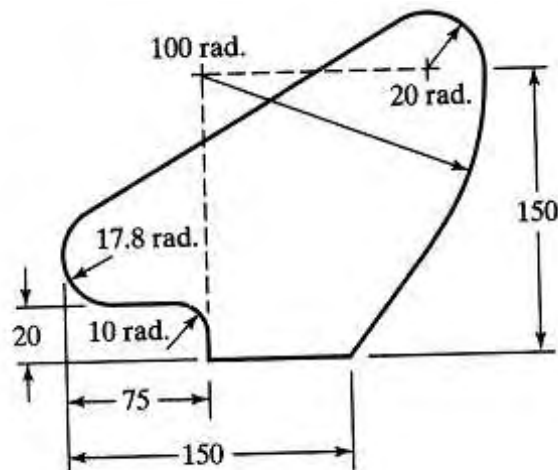

Figure 7
7. The outline of the cam in the following figure 7 is to be machined in an end milling operation, using a 12.5-mm diameter end mill with two teeth. The part is 7.5 mm thick. Write the complete APT program for this job, using a feed rate = 80 mm/min and a spindle speed = 500 rev/min. Postprocessor call statement is MACHIN/MILL, 03. Assume the rough outline for the part has been obtained in a band saw operation. Ignore clamping issues in the problem. All dimensions are in mm. [16]